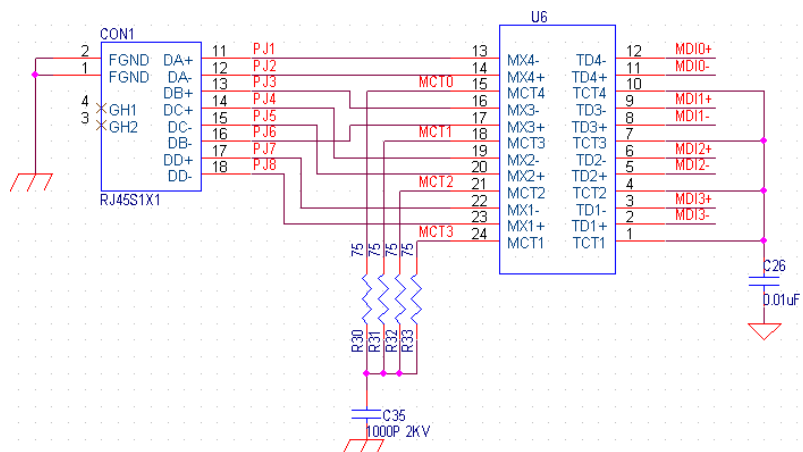

Figure 14. Separate Transformer
- When using a separate transformer, the center-tap MUST be aggregated (pins 10, 7, 4, 1) (C26 Value: $0.4\mu\text{F}\sim 50\text{pF}$) (see Figure 14)